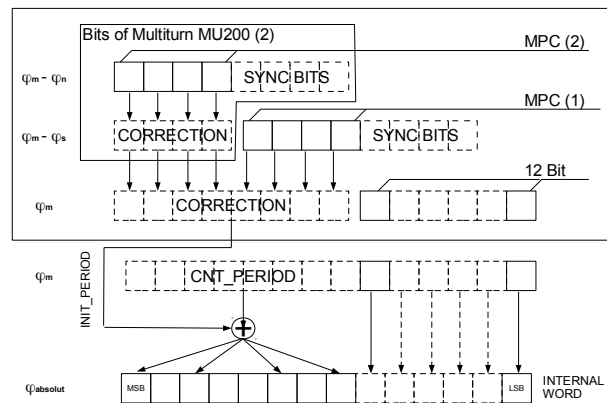

Figure 44: Principle of the synchronization of a 3-track nonius system using 2 iC-MU200 without further multiturn data
Figure 44 shows the principle of the synchronization of the data from iC-MU200 (2) to iC-MU200 (1).